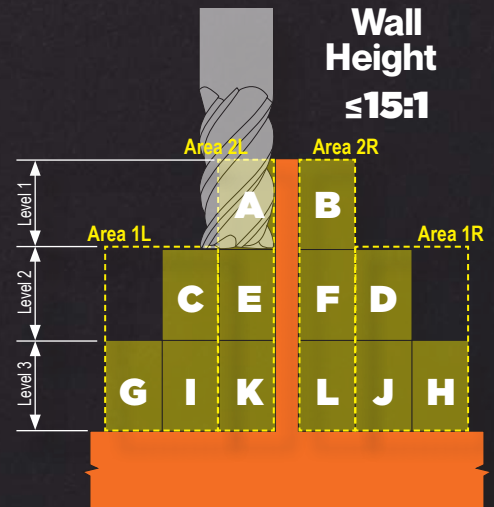
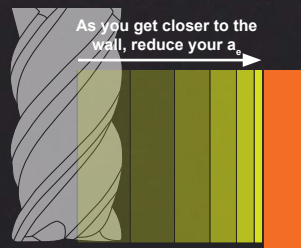
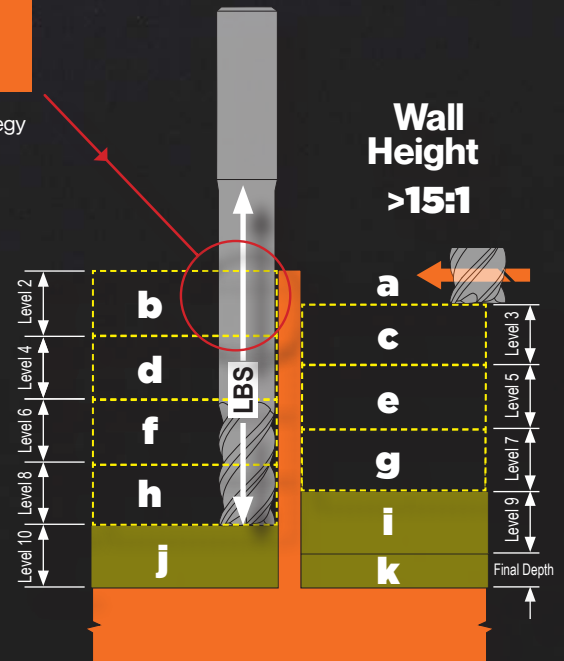

Fig. 4 - Material Removal Strategy $\leq 15:1$
Fig. 5 - Radial DOC (a_e) Strategy
Fig. 6 - Material Removal Strategy $>15:1$
Please examine the situational analysis provided, as the illustrations (Figures 4 and 6) represent common instances of tall, slender wall situations. We have simplified the analysis to two scenarios: a depth-to-diameter ratio $\leq 15:1$ or $>15:1$. Our objective is to maintain the bracing as we go from one level to another while constructing the wall.
For walls $15:1$ or less, we suggest removing the "blocks" alphabetically (Fig. 4), starting with a stub or regular length tool, then using a reduced neck tool to remove the final "blocks/levels" that the first tool couldn't reach. Yes, two tools are required, but keeping the appropriate metal removal rate in mind should be the main emphasis here by regulating vibration, deflection, and raising the metal removal rate (MRR) to enhance roughing efficiency.
For walls $>15:1$, we suggest more of an alternating (i.e., overlapping) strategy, keeping some material behind the wall at all times (Fig. 6). Again, starting with a stub or regular length tool, then using a reduced neck tool to remove the final "blocks or levels" that the first tool couldn't reach. As you machine each level jumping over the wall, ensure you always have some material bracing the next cut.
- **Radially** - Especially when there is nothing to work with on the other side of the wall, it is imperative to use the variable radial depth of cut method, as shown in figure 5. The cutting pressure is lowered in proportion to our decreasing radial depth of cut (a_e) as we go closer to the wall. This technique should be used for either depth (Fig. 4 or Fig. 6) scenario. Our goal here is to lessen the pressure as we approach the wall, but we should be able to make up some MRR by increasing feed rate due to chip thinning (see page 88 for more information). They'll be a balance here for sure, but at least now you have some additional knowledge.
TIP The "LBS" measurement (as shown in Fig. 6), which stands for "length below shank", is the maximum depth that the necked tool may be sent with- out making contact with the wall. This LBS measurement (L2) can be found throughout this catalog. **LBS = Maximum Tool Reach**